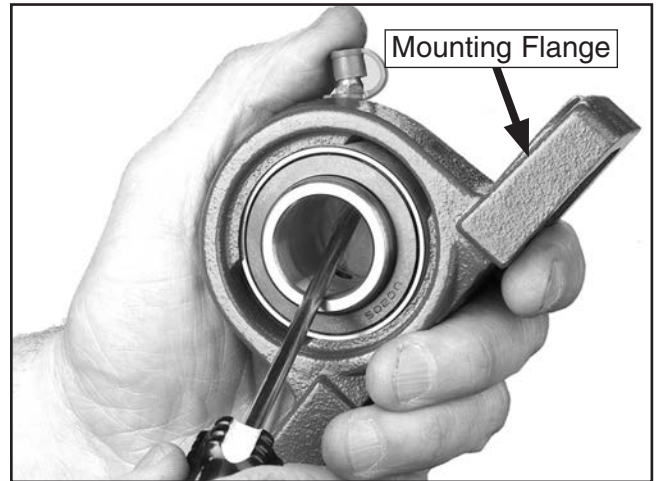

Figure 47. Bearing positioning for removal.
5. Use a screwdriver to pry and rotate the bearing so it is horizontal to the bearing-housing mounting flanges, as shown in **Figure 47**.